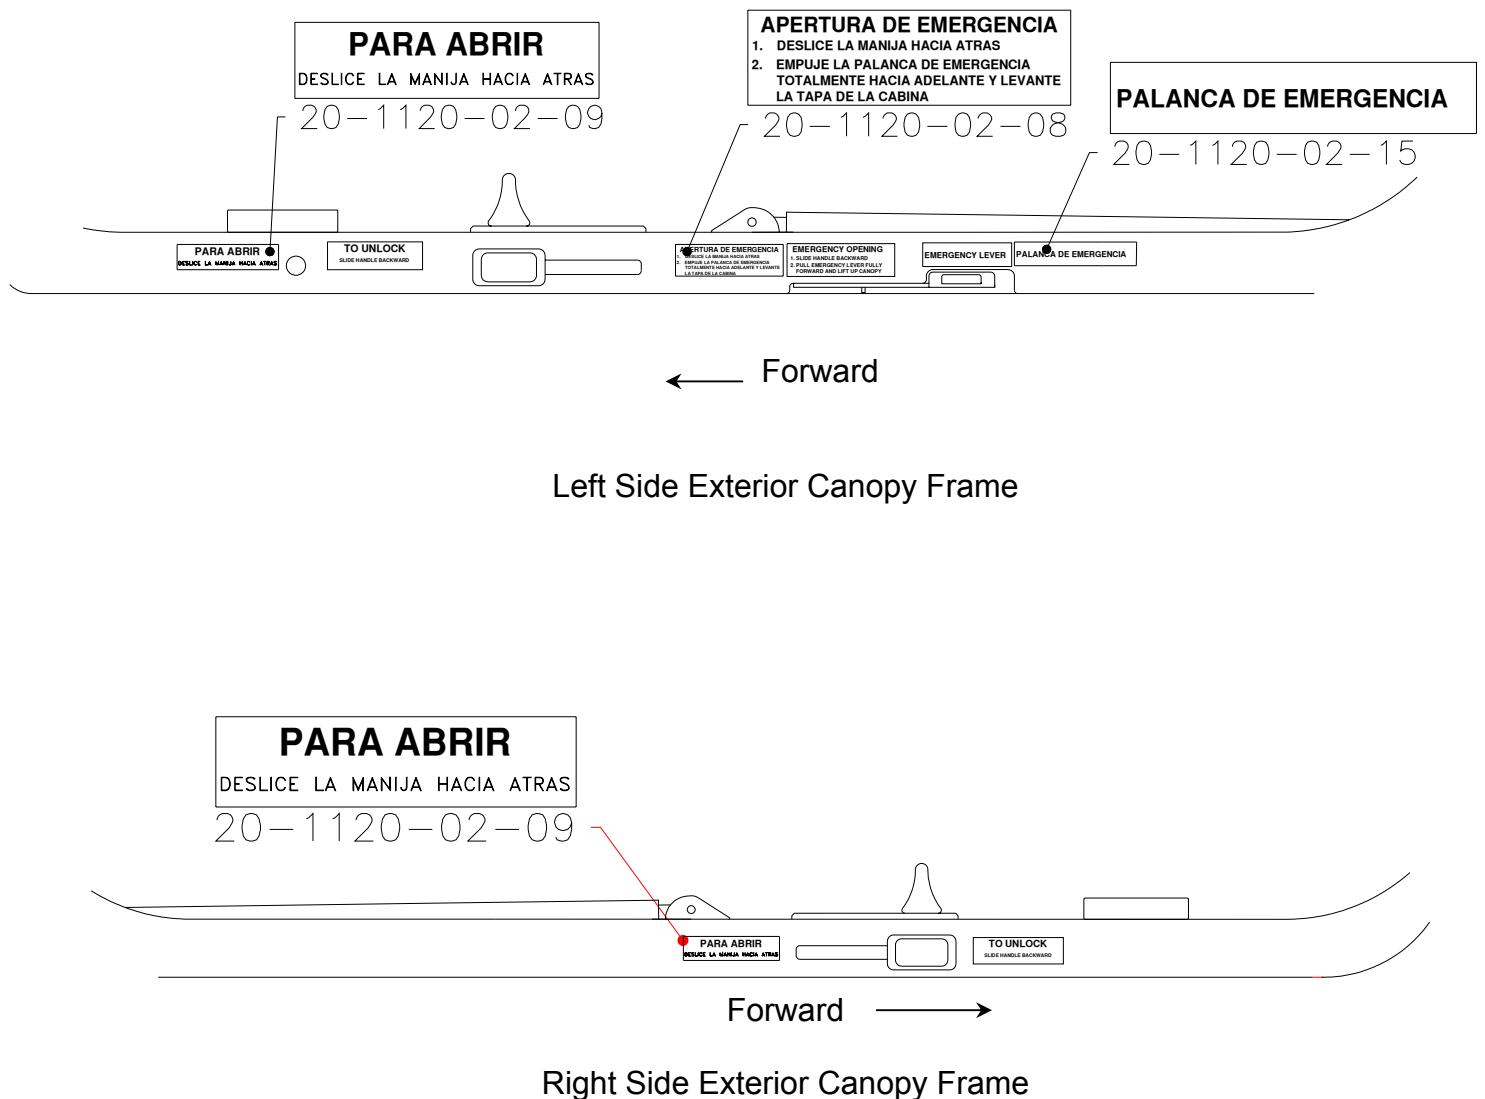

Figure 1
- 10.1 Install the Spanish language placards adjacent to the English language placards as shown in Figures 1,2 and 3.